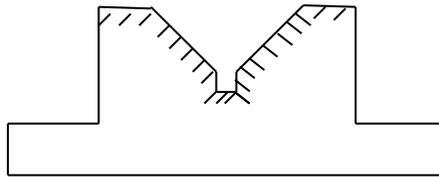

Figure 1. V-block with included angle 90° for V shape
- (b) Explain the sequence of operations to produce 'V' shape and central slot on V-block shown in figure 1. The surfaces to be machined are shown hatched in the figure. The operations are to be carried out on shaper machine. Produce a tabular format to show the toolings used and relative motions between cutting tool and workpiece for each sequential operation to be carried out. Assume suitable data and clearly mention the same. **07**